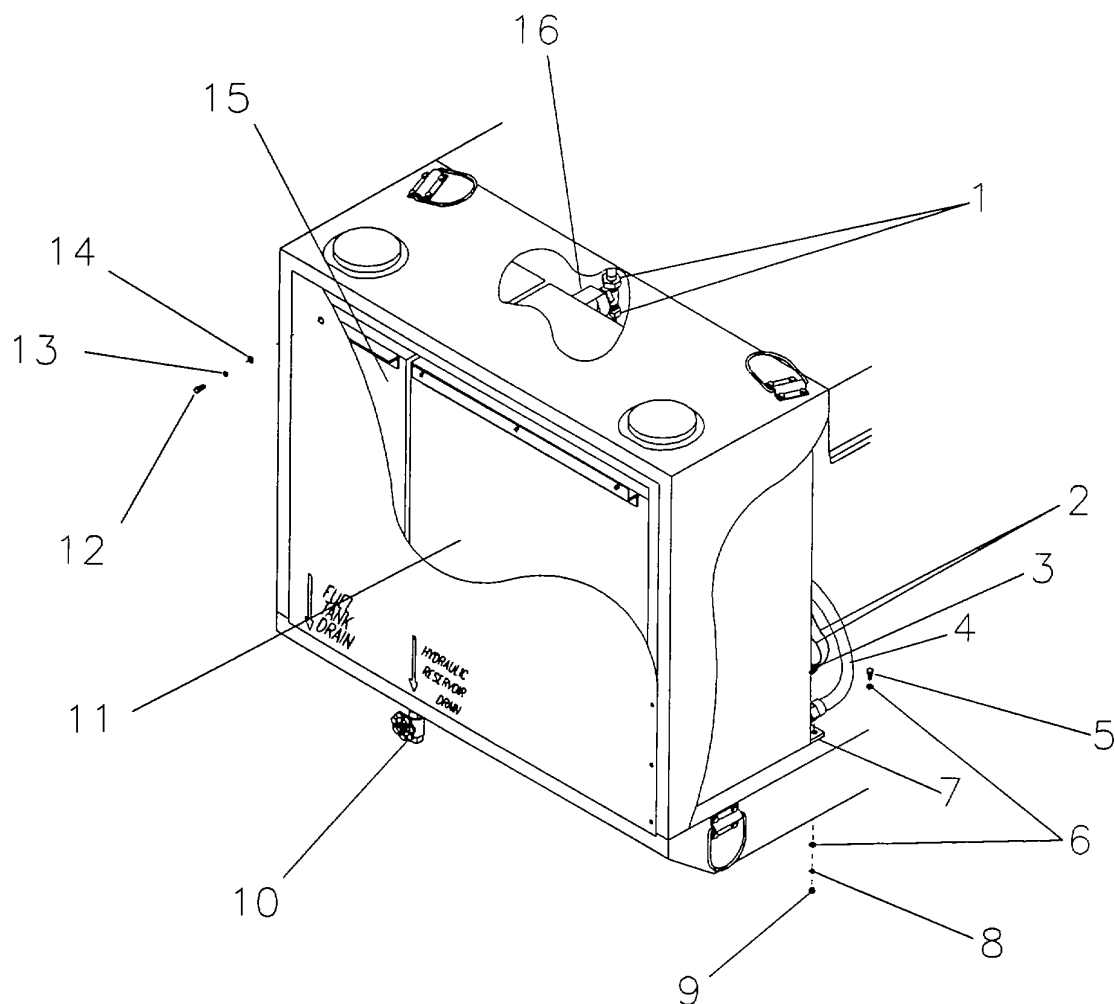

Figure 5-2. Hydraulic Fluid Tank.
a. Removal. Refer to figure 5-2.
- 1) Tag and remove the wires (2) from oil overtemp switch (3).
- 2) Remove and plug hose (4) from hydraulic fluid tank (11).
- 3) Remove hydraulic fluid tank drain valve (10).
b. Installation. Refer to figure 5-2.
- 1) Install the hydraulic fluid tank (11) through the rear of the cabinet, making sure the bottom mounting angle (7) is to the front.
- 2) Install the fuel tank (15). Refer to paragraph 4.17.
- 3) Connect the fluid lines (1) at the return filter housing (16) on the hydraulic fluid tank (11).
- 4) Connect the hose (4) to the hydraulic fluid tank (11).
- 5) Connect the wires (2) to the oil overtemp switch (3).
6) Install the hydraulic fluid tank drain valve (10).
7) Install nuts (9), lockwashers (8), flatwashers, (6), bolts (5), flatwashers (14), lockwashers (13) and screws (12). Refer to 4.17.